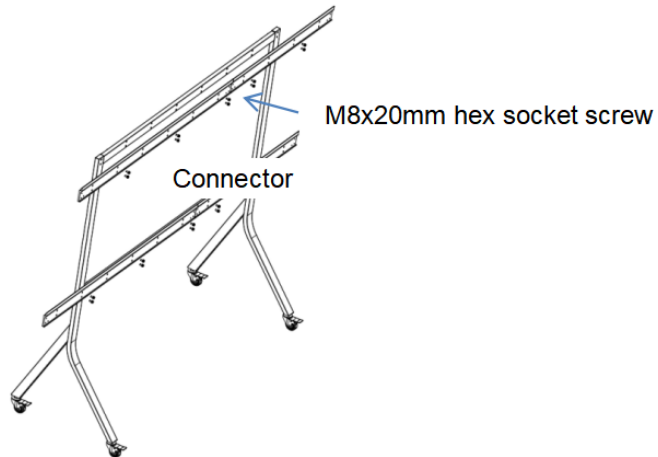

Figure 8
15. Mount the Hanging Bars (upper and lower) to a free-standing or rolling bracket (135" or 162"). Use 32 sets of M8x20 bolts, flat washers and nuts as shown in Figure 8.